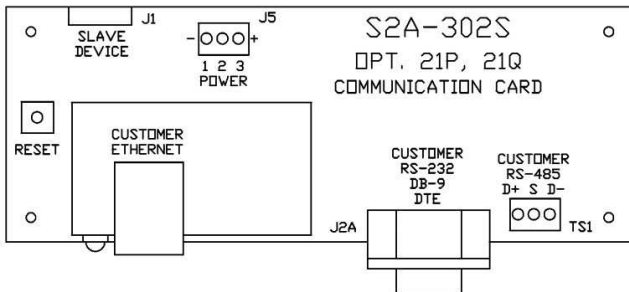

**Figure 12 - Load Sharing Connection
3. As illustrated in Figure 12, connect the **LS** terminal of one charger to the **LS** terminal of the second charger.